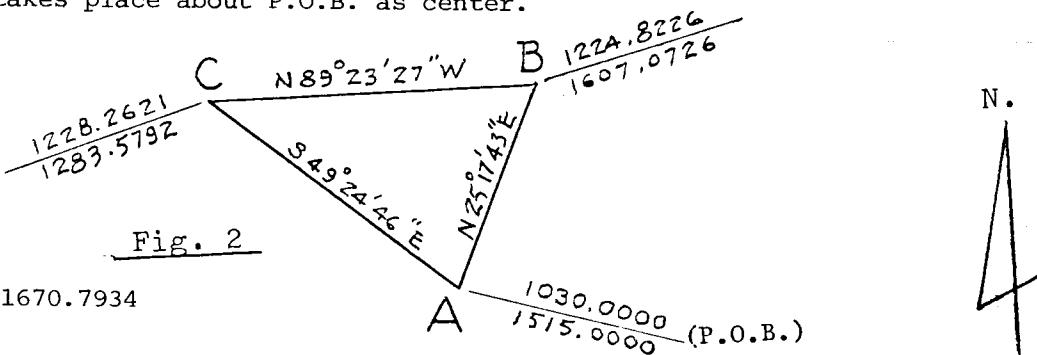

Fig. 2
- (1) Enter coordinates of beginning point.
- (2) Enter old and new Azimuths.
- (3) Run BEARING traverses or FIELD ANGLE traverses, point A to point B to point C to point A. Traverse should close with reasonable accuracy. (Since we only work with integral seconds, there may be some loss of accuracy.)
- (4) Obtain traverse data calculated for each leg as shown in Fig. 2 below. This represents the rotated traverse. All sides remain the original lengths.